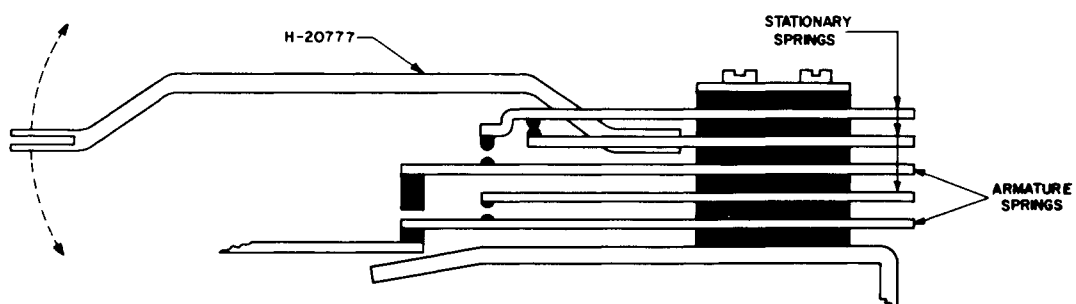

Figure 17. Make-before-break spring adjustment.
- d. Special adjustment for make-before-break spring combinations. Figure 17 springs 3-4-5 represent a make-before-break combination. Tension spring 5 slightly so that spring 4 moves when contacted by 5. Adjust gauging with spring 4.